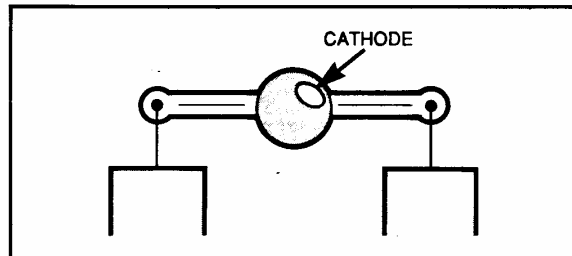

Figure 8-2. Proper Diode orientation.
- Install the replacement diode with the white dot (cathode) positioned toward the test port connector (Figure 8-2).